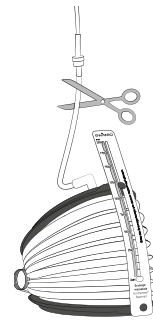

Fig. 1
4. Now cut through the tube below the one-way valve* (Fig.1). Dispose of the cut-off piece of tube with the pinch clamp and access tip. If necessary, use the laid out cloth. To dispose of the collected fluid in the toilet, position the reservoir upside down so that the tube opening is pointing downwards above the toilet. You can start the emptying process by compressing the reservoir.